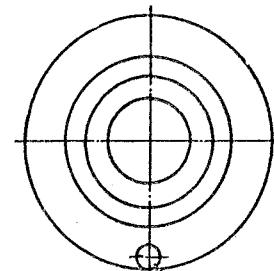

Fig. 3 S
- * Allow the wheel to oscillate to find the center of gravity which is then marked "S" with chalk (Fig. 3)